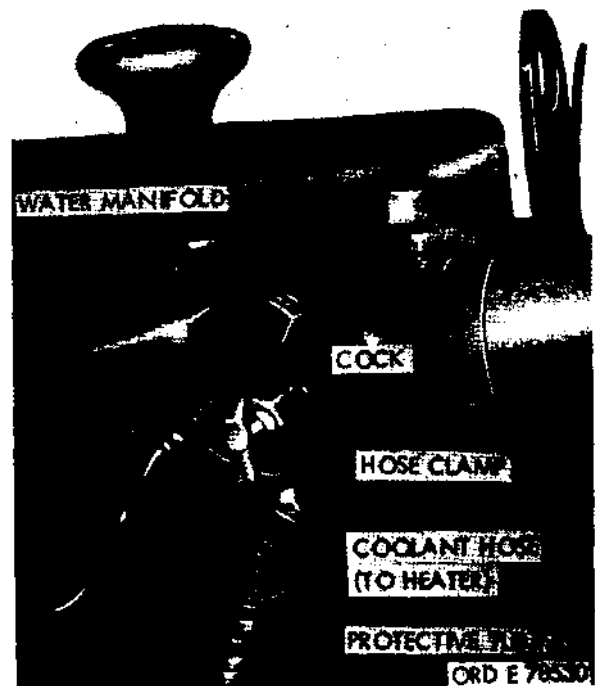

Figure 703. Inlet for heated coolant.
- (1) Drain radiator coolant (TM 9-2320-211-20).
- (2) Remove sending unit and forward lower plug in water manifold. Install cock 543352 (fig. 703) and replace sending unit.
- (6) Place 76 in. long protective tubing 7986268 around 78 in. long hose 8376141 and thread hose and tube from battery compartment, along lower part of engine block and up to water manifold cock installed in (2) above (figs. 703, 704, 705, 706). Attach hose to 450 elbow atop